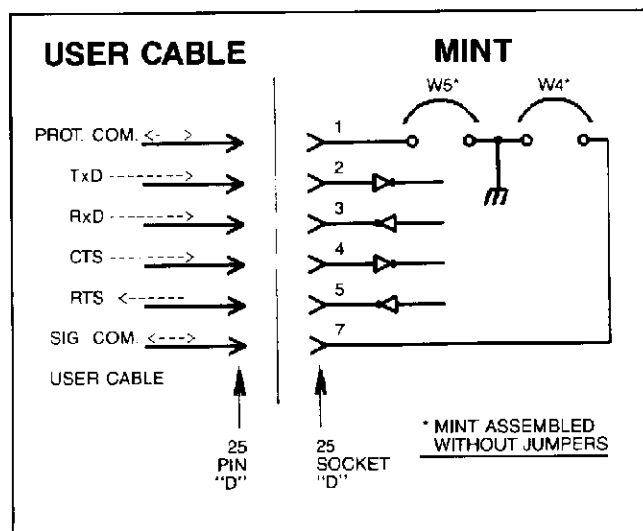
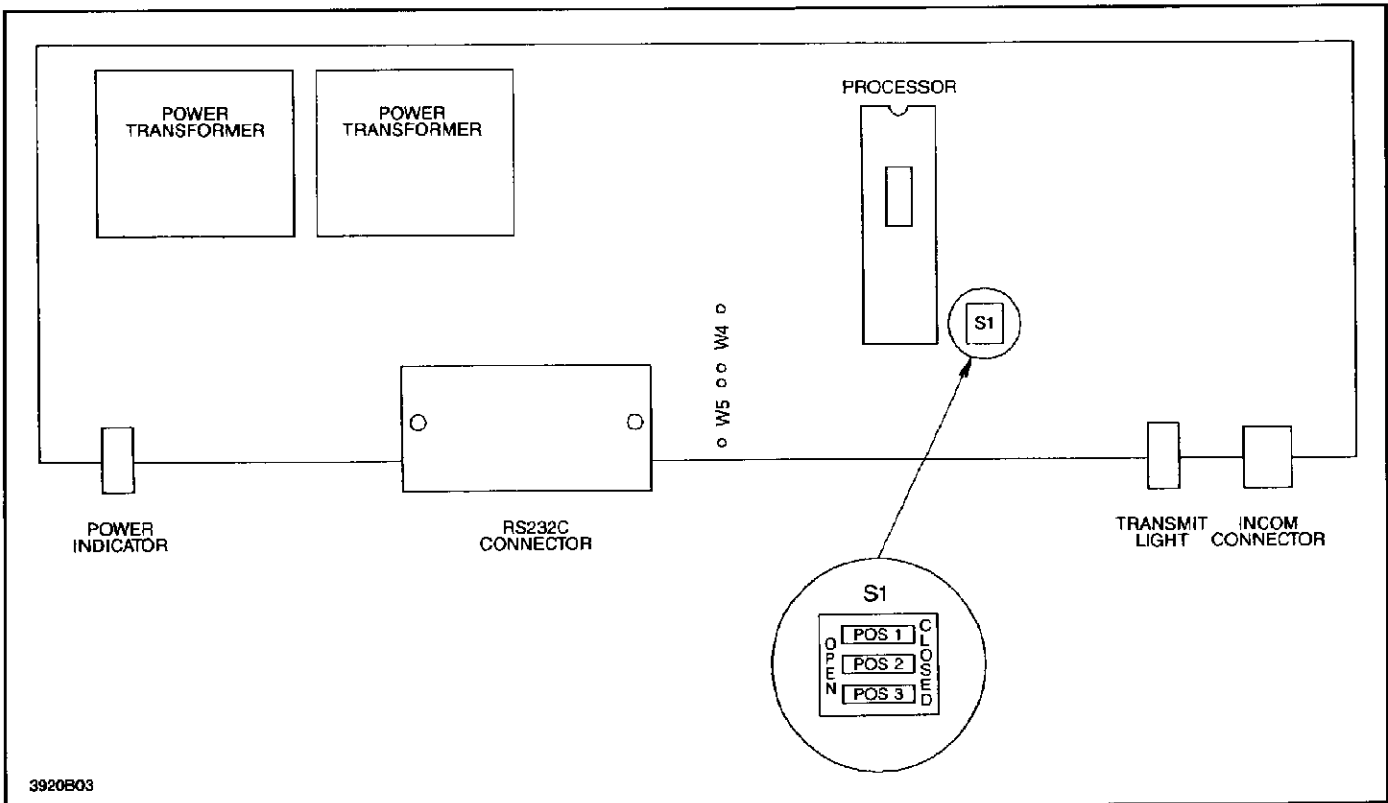

Fig. 3 RS232C Connector Definitions
Fig. 5 Jumper Hole and Switch Location Inside MINT on Printed Wiring Board
The RS232C connector is a 25 socket "D" subminiature connector that connects the MINT to the user's RS232C device using a user-supplied mating 25 pin "D" subminiature connector and cable. The configuration of the connector is as a subset of a data set as discussed in the RS232C standard. Refer to Figure 3.
2. Connect a user-provided RS232C cable to the MINT. Plug the other end into your RS232C master device. (See Figure 3.)
In order to help control data flow, the MINT provides the "handshaking" lines labeled CTS and RTS (pins 4 and 5) in Figure 3. These lines are defined similarly to but not exactly as in the RS232C standard. The sense of these lines is chosen to allow proper 3-wire operation if handshaking is not used. That is, connecting only pins 2, 3, and 7 will allow communication. An open line or a line with less than -3 volts applied is un-asserted. A line with more than +3 volts applied is asserted.
The RS232C channel is electrically isolated from the INCOM channel and from the processor circuitry. A separate power supply is provided and the four active lines are optically coupled to the translating microprocessor circuit. Thus, no special grounding is necessary for MINT operation. If special system requirements other than the MINT operation dictate special grounding, the MINT has provision for the installation of jumpers to connect the PROTECTIVE COMMON to the MINT chassis and to connect the SIGNAL COMMON to the MINT chassis. Refer to Figure 3 for a schematic representation of the grounding jumper functions. Refer to Figure 5 for the jumper locations. Refer to Table I for a description of jumper function. Jumpers should be insulated solid wire of appropriate length to fit the gap between the jumper holes.
Alternative bauds are possible by removing the MINT case and changing the dual-in-line package (DIP) Baud Switch S1 (See Figure 5.)
Refer to Figure 5 and Table II. Change the switch positions using a pencil or a small screw driver.